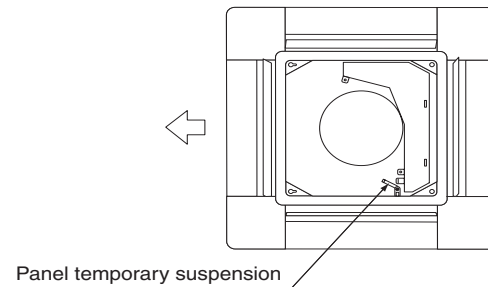

Fig. 4
3. Slide the panel in the direction of the arrow, passing the 2 attachment holes (the "⌋" shapes parts) over the temporarily tightened screws. **(Refer to Fig. 4)**